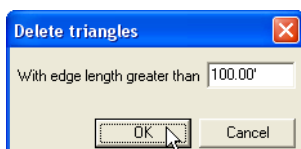

Figure 5-12. Delete Triangles with an Edge Greater Than...
3. Type a length to delete triangles with at least one edge greater than the entered value (Figure 5-12). 3D-Office deletes all triangles that have at least one edge as long as the length.